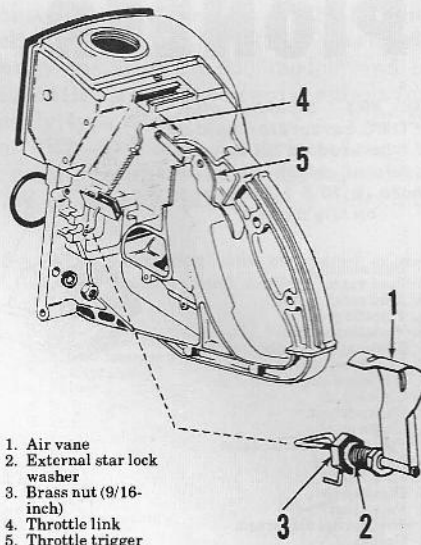

Fig. PR3-5—View showing parts of air vane governor used on some models.
**CARBURETOR.** An OMC carburetor is used on all models. Saw models 700, 700-G, 750 and 850 are equipped with a fuel primer pump (Fig. PR3-3) and carburetor is not provided with a choke. Later saw models are equipped with a carburetor choke (9, 10 & 11—Fig. PR3-1). Saw models 750 and 850 are equipped with an air vane governor (Fig. PR3-5).